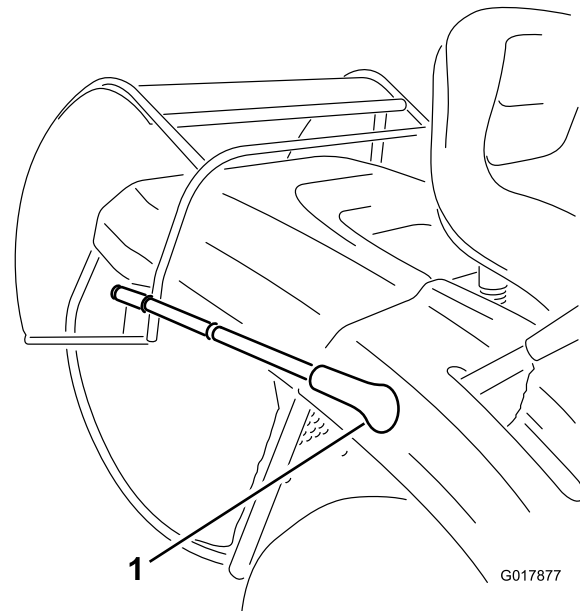

Figure 15
3. Pull the grass collector dump lever forward and tilt the grass collector (Figure 15).